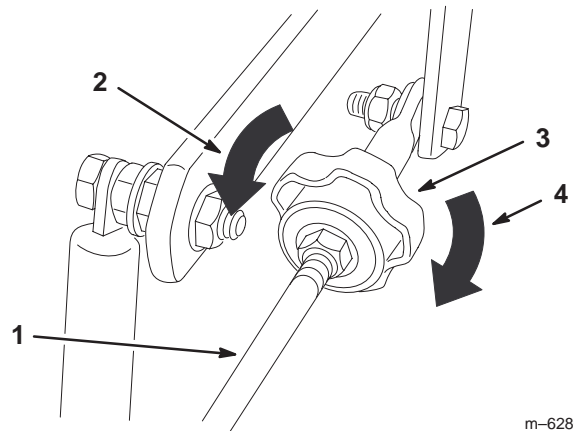

Figure 62
4. To make the machine go right, turn the knob towards the rightside of the machine. Refer to figure 62.
5. To make the machine go left, turn the knob towards the leftside of the machine. Refer to figure 62.